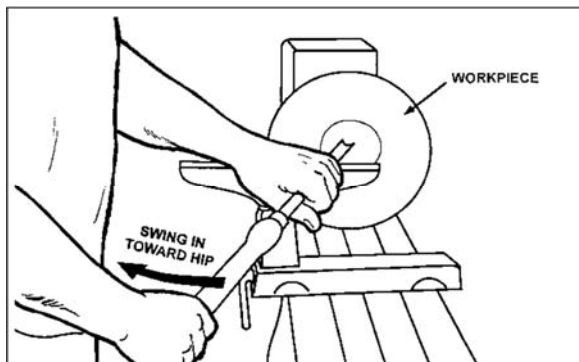

Figure 27
5. Place 1/2" bowl gouge on tool support at center of the workpiece with the flute facing top of bowl. The tool handle should be level and pointed toward the four o'clock position, as shown in Figure 27.
6. Use the left hand to control cutting edge of gouge, while right hand swings tool handle around toward your body (Figure 27). The flute should start out facing top of workpiece, and rotate upward as it moves deeper into the bowl to maintain a clean even curve. As the tool goes deeper into the bowl, progressively work out toward the rim. It may be necessary to turn the tool support into the piece as you get deeper into the bowl.